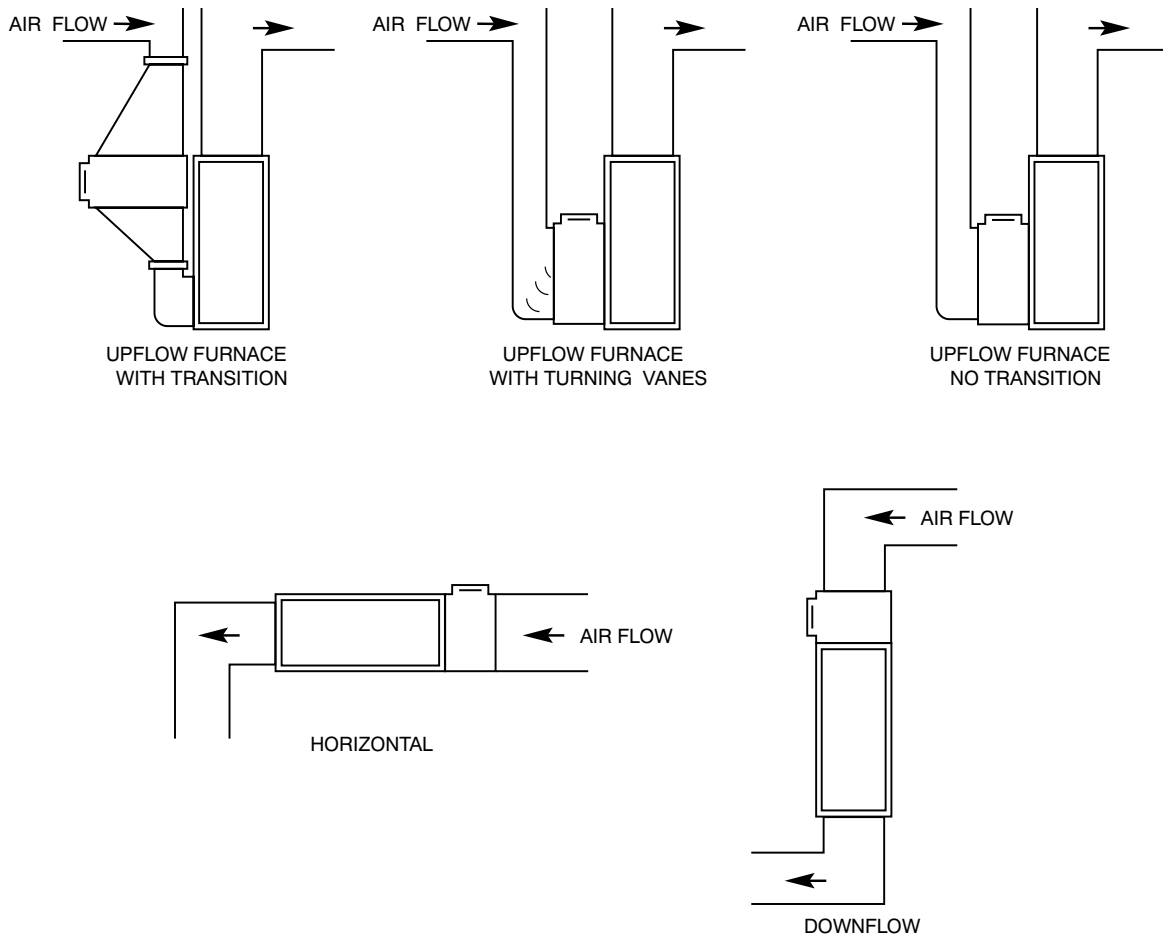
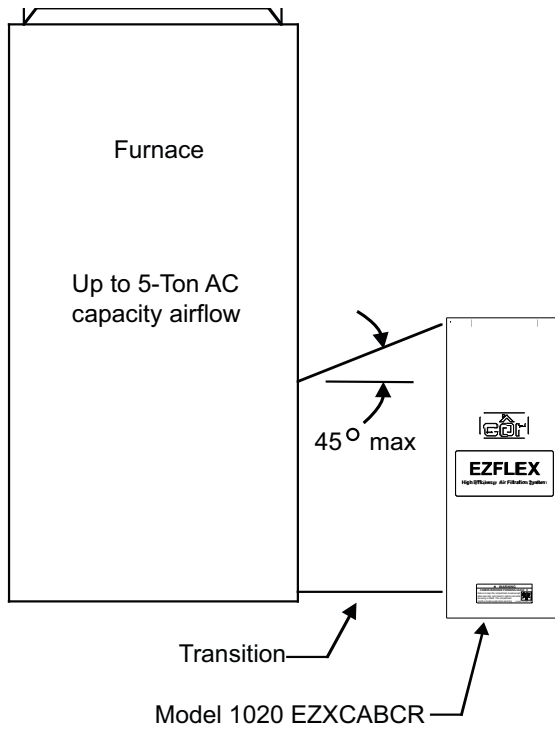

Fig. 3 – Typical Mounting Positions
Fig. 4 – Furnace
The best location for the High Efficiency Air Filtration System cleaner is in the return air duct next to the blower compartment. In this location, the blower motor and cooling coils will be kept clean. Do not install the air cleaner in the discharge (supply) air duct. Before installing this High Efficiency Air Filtration System cleaner, consider the application. If a transition is required, refer to Fig. 3 or Fig. 4. The unit must be readily accessible for periodic inspection and replacement of EZ-Flex™ filter to maintain maximum efficiency and trouble-free operation.
4. Locate the cabinet in the cold air return duct so that all of the return air flows through the unit. If the furnace and air cleaner openings are different, use a Fig. 3.